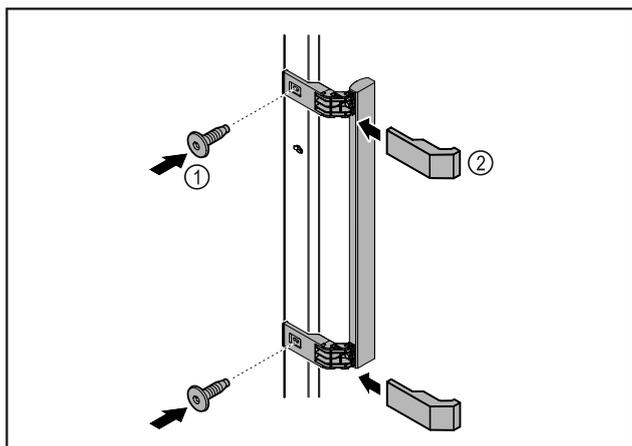

Fig. 9
- ▶ Attach handle from accessory kit to the door using the screws supplied Fig. 9 (1).
- ▶ Put on cover Fig. 9 (2).